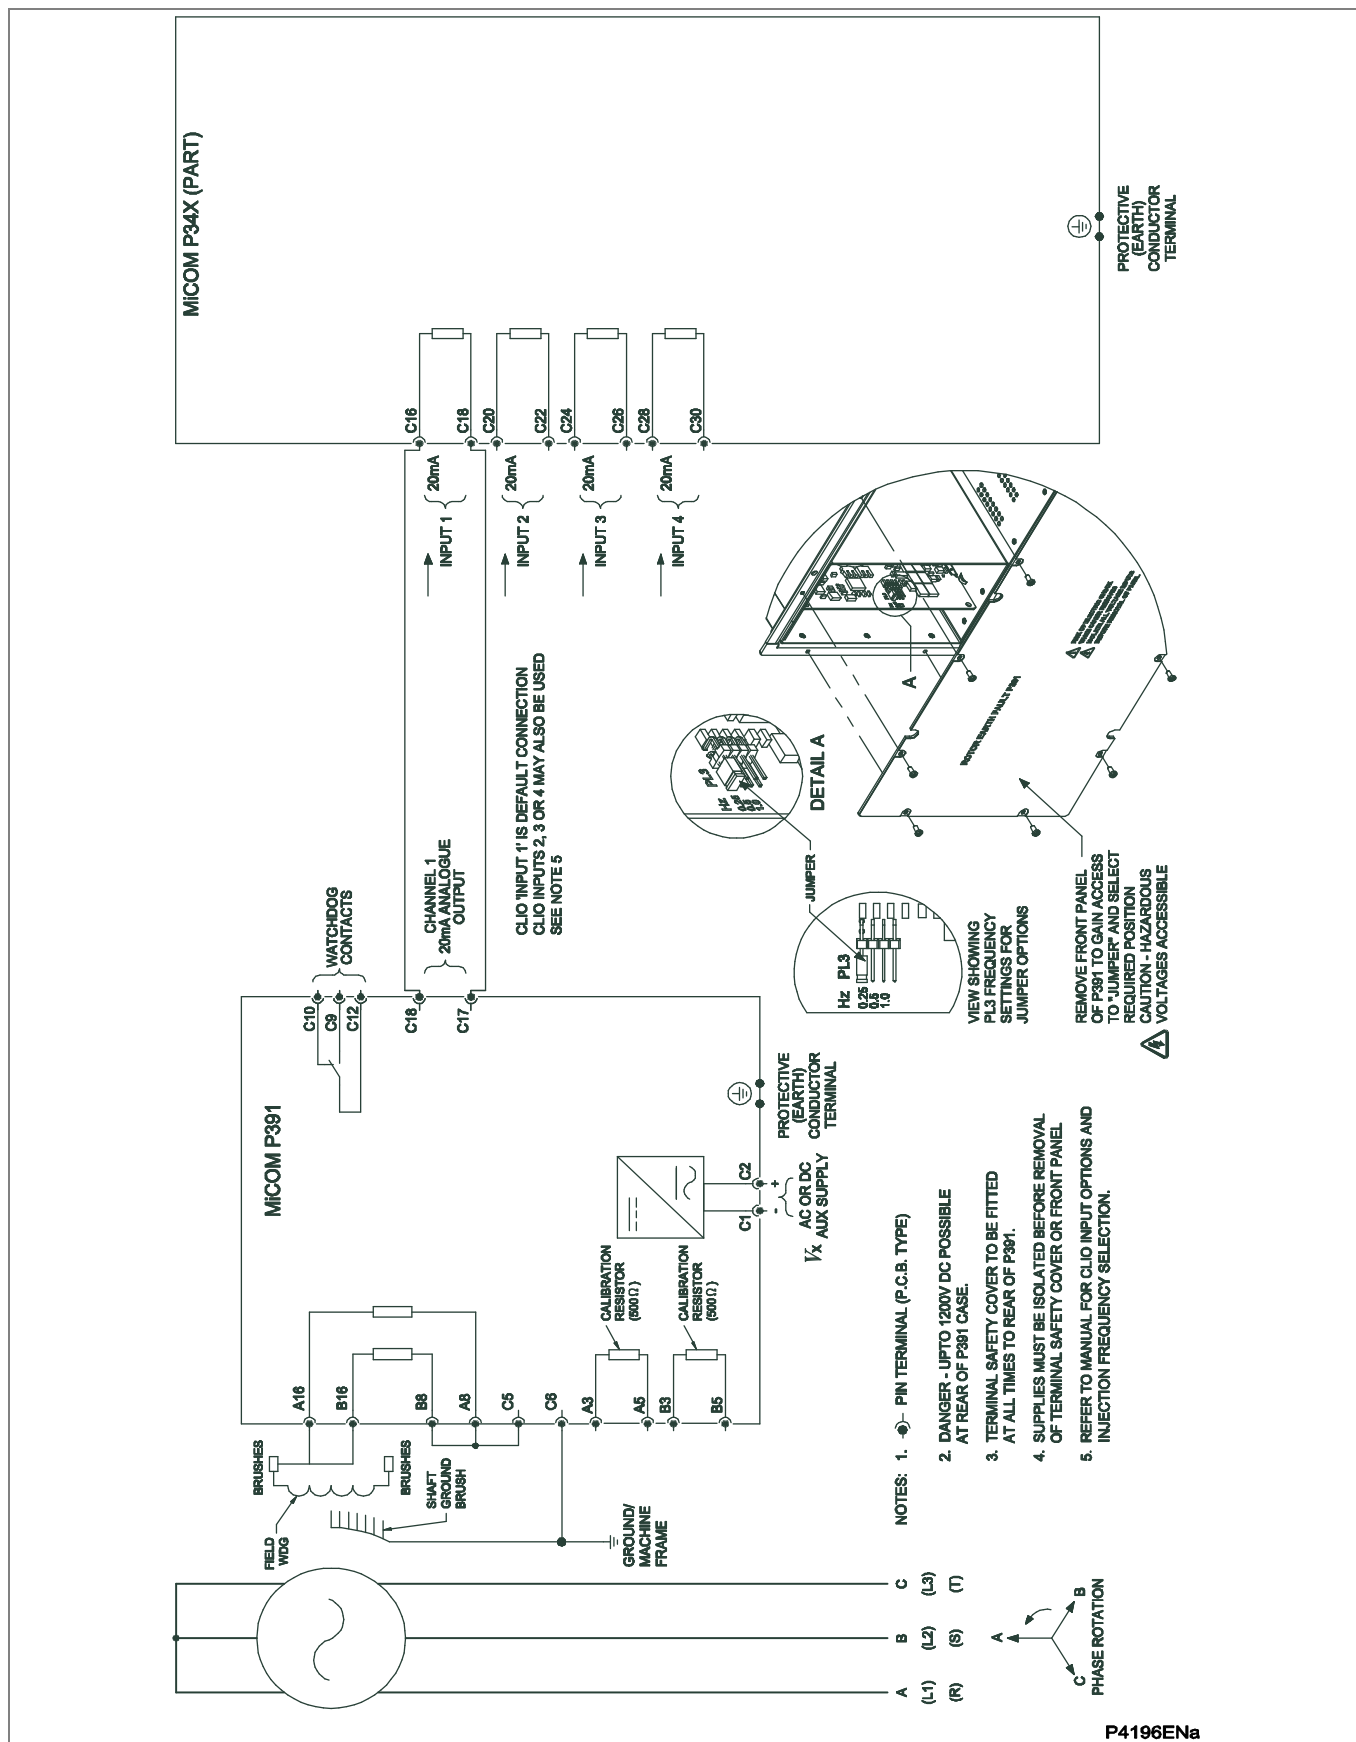

Figure 7 - P391 Rotor Earth Fault single ended field winding connection
- Figure 7 - P391 Rotor Earth Fault single ended field winding connection